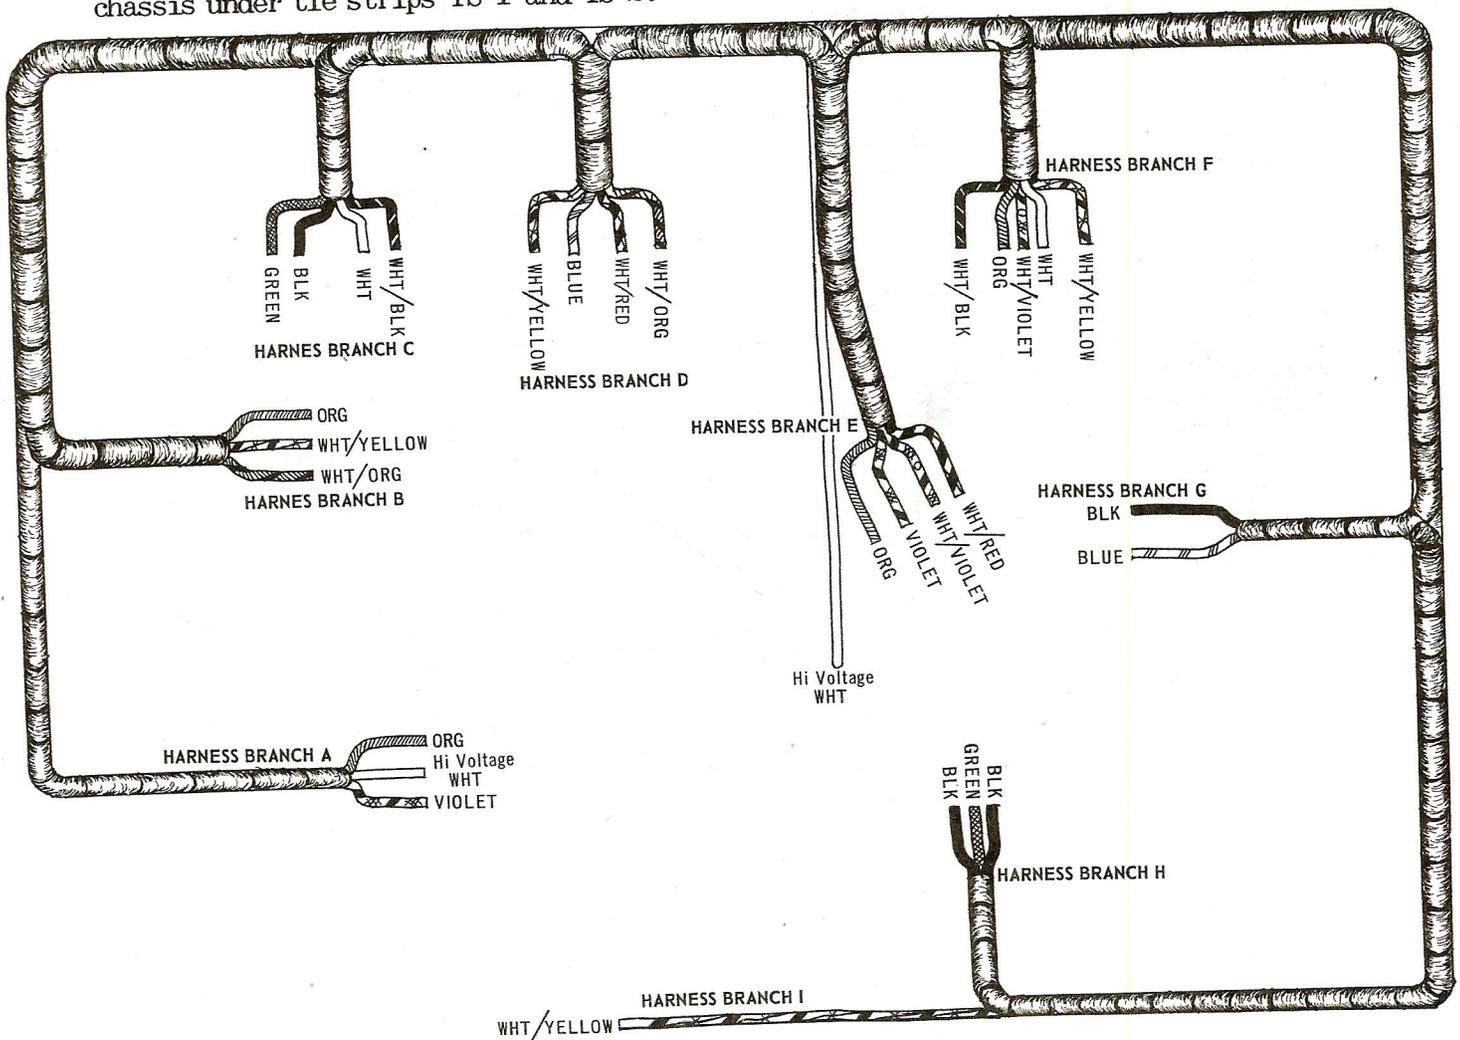

Figure 16. Wiring Harness Layout.
- 14. Select the wiring harness. Lay it flat on the table and straighten out all leads. Refer to Figure 16 to identify the various branches.